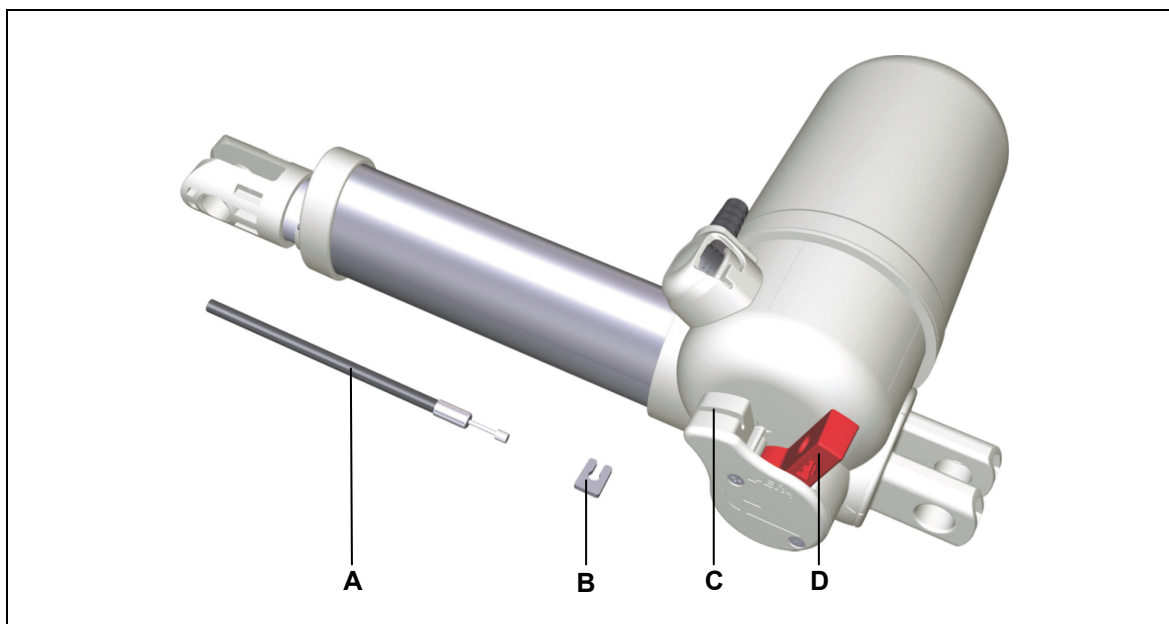
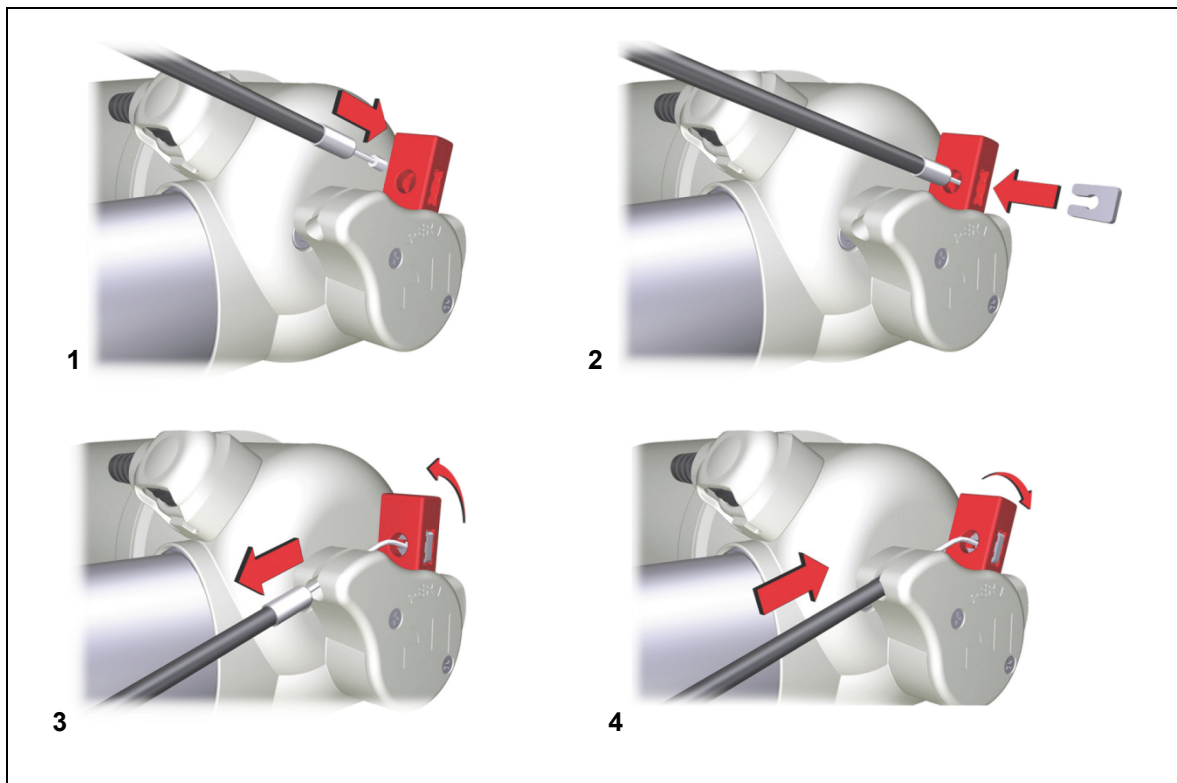

Figure 26 Mounting the drive with ER mechanical reset function
Figure 27 Installation of the Bowden cable for the ER mechanical reset function (optional)
- 1 Guide the Bowden cable (**A** in Figure 26) through the release lever of the ER (**D**), as shown in Figure 27.